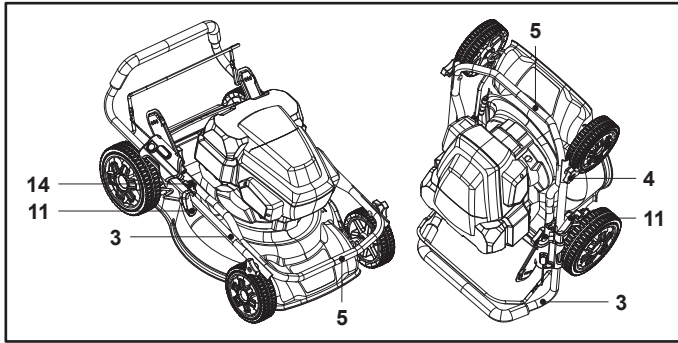

Fig. 19
1. Switch the machine off and remove the two battery packs (24) before storage.
- Remove the grass catcher (16) / mulching insert (23).
- Set the lever for cutting height adjustment (11) to the lowest position.
- Fold the handle assembly (5, 3) by disengaging the two locking buttons (14) and loosening the two locking knobs (4) slightly.
- Store the lawn mower flat or upright (Fig. 19).